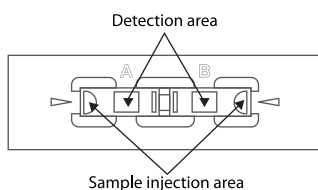

Figure 2 DHC-N01
2. Load 10 μL of sample into the sample injection area in Fig. 2, so that it fills the chamber by capillary action.
6. Load 10 μL of sample into the sample injection area in Fig. 2.
The C-Chip (DHC-N01) is a disposable plastic hemocytometer used for manual cell counting. It consists of surface-patterned two enclosed chambers with two ports for sample injection (Fig. 2).
2. Load 10 μL of diluted sample into the sample injection area in Fig. 2.